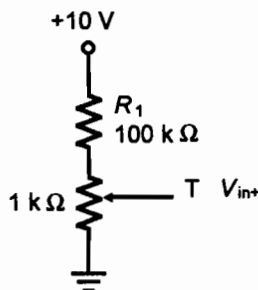

Figure 42.2
- Connect the voltage divider of Figure 42.2. Set the potentiometer so that the wiper is at the ground end (zero output). Connect the wiper connection to the amplifier  $V_{in+}$  input, and adjust the potentiometer for a DC output of 15 mV. Record this value in Table 42.1 as  $V_{ID}$ .